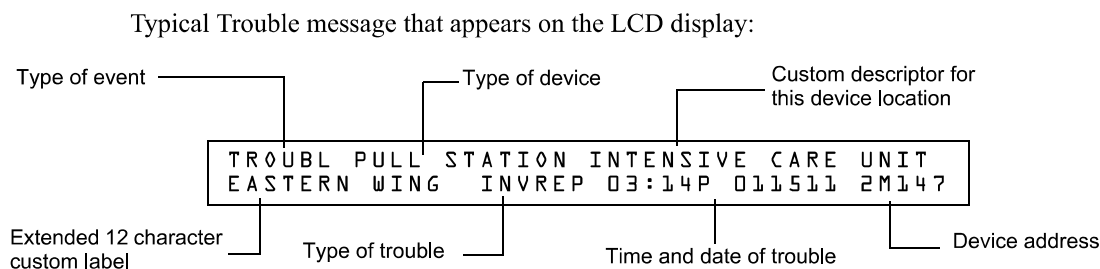

Figure 3.6 Sample Trouble Message
- Displays TROUBLE in the status banner on the LCD display as well as the type of trouble and information specific to the device, as shown in Figure 3.6 below.